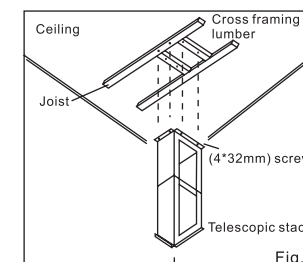

Fig.4
5. If the ceiling is not strong enough, it must install 2 (2×10") cross framing lumbers between joists. (Fig.4)
6. Replace the mounting templet in the position of the ceiling joists and cross framing lumbers, install telescopic stack to the ceiling joists and cross framing lumbers with 8 (4×32mm) screws as provided, ensure all screws were driven firmly. (Fig.4)